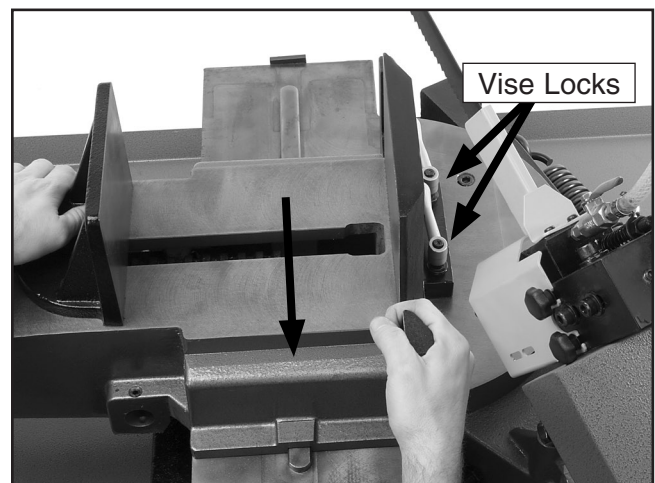

Figure 15. Changing vise positions.
3. Loosen the two vise locks at the base of the vise and remove the upper chip tray (see Figure 15).